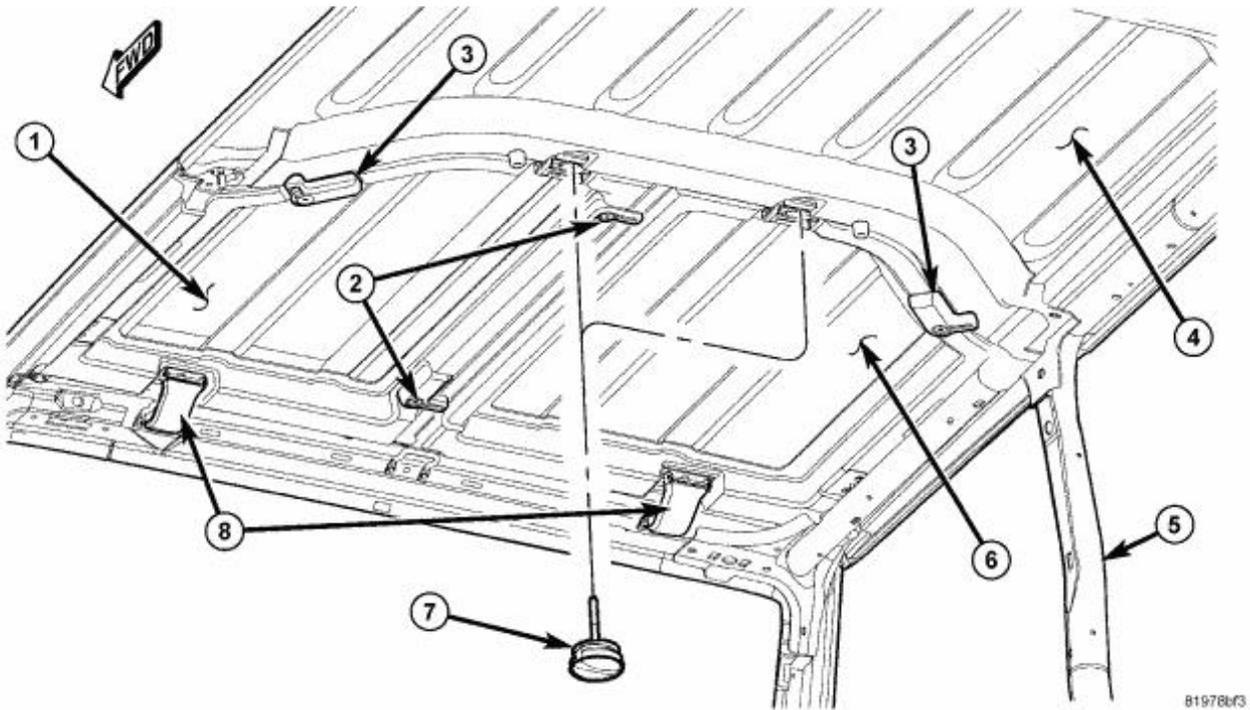

Fig. 1 HARD TOP INSIDE FULL VIEW
3. Inspect the Freedom Top panels to ensure that they are installed correctly (Fig. 1). If not, then note this condition so that the correct procedure for installing the Freedom Top panels to the hard top can be reviewed with the customer. To ensure that the panels are installed correctly perform the following steps in order. **When installing each Freedom Top panel, always close the windshield latch first .**